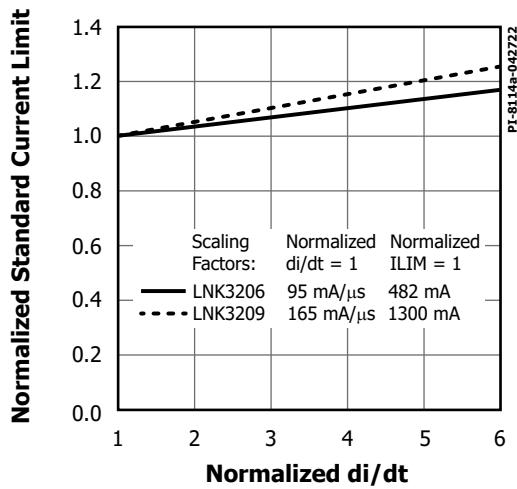

Figure 21. Standard Current Limit vs. di/dt.
- D. For current limit at other di/dt values, refer to Figures 21 and 22.